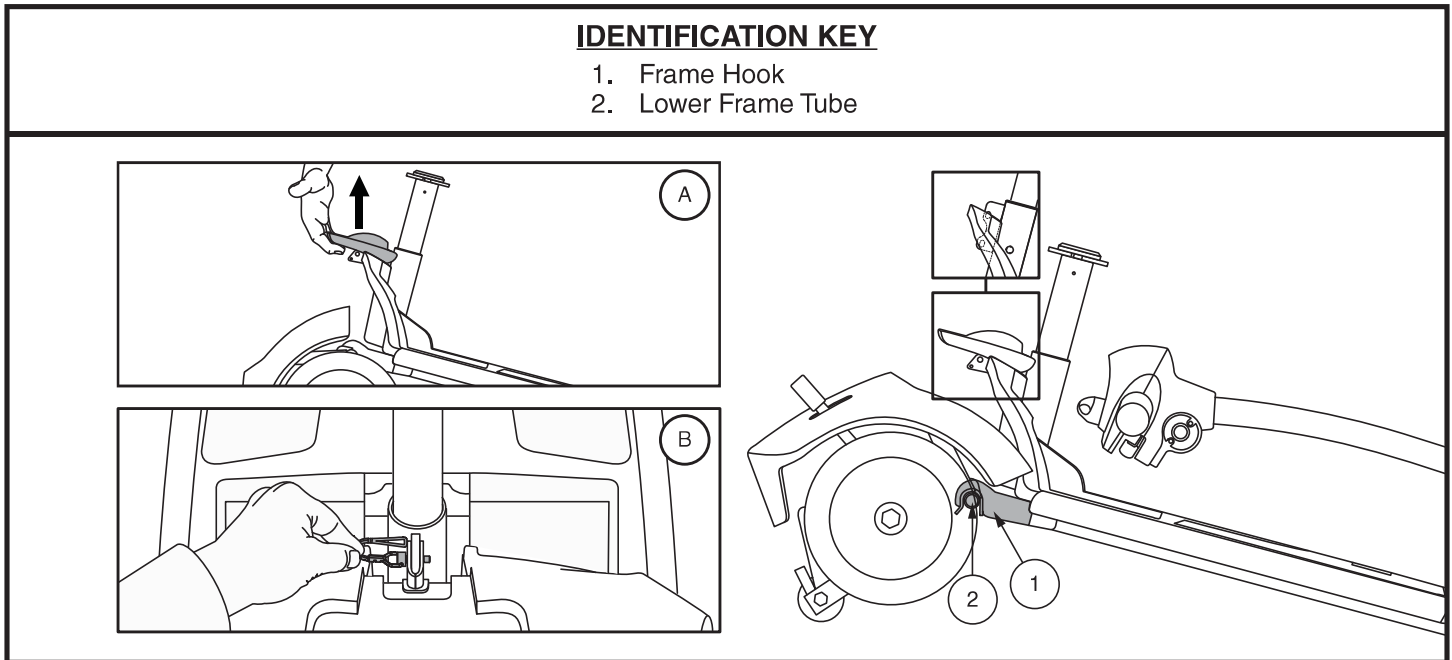

Figure 32. Frame Release Lever (Style A) and Frame Release Lock-up Pin (Style B)
4. Slowly separate the two sections of the Travel Scooter. See **figure 32**.
**NOTE:** Before attempting assembly, tilt the rear half of the Travel Scooter slightly back on the anti-tip wheels as shown in figure 32.
1. Use the frame release lever (or the seat post for models 36, 83, and 84 only) to lift the front section as you align the frame hooks of the front section with the lower frame tube of the rear section. See **figure 32**.
2. Once the frame hooks are over the lower frame tube, lower the front section and pivot the rear section simultaneously. This will engage the frame lock-up automatically for models 39, 40LX, 40X, 44X, 40E, 44E, 44LX, 49, 50LX, 54LX, 53, 53HD, 54, 54HD, 66, 67, 73, 74, and Jazzy ZTS. For models 36, 83, and 84, you will also need to reinstall the frame lockup pin to complete the body assembly. See **figure 32**.